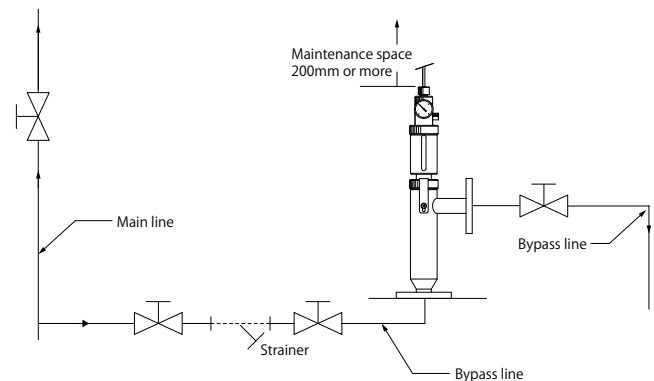

Fig.2
- In cases where there is a lot of floating matter in the measured liquid, attach a strainer to the inflow side of the holder. See [Fig.2]